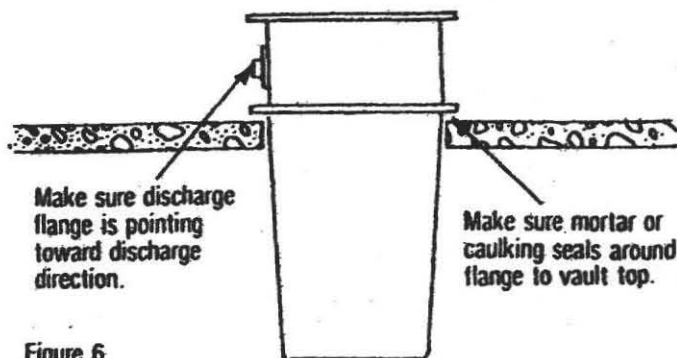

Figure 6
F. Set the basin into the hole making sure that the mortar seals all the way around the basin flange. Care should be taken to make sure discharge flange is pointed in proper direction. (See Fig. 6).